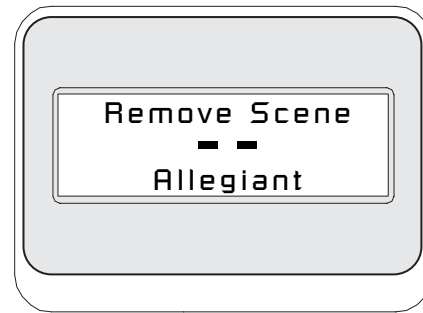

Figure B-6
⑪ **Preset Scene Control:** This command is specific to G3 AutoDome cameras; pressing this key displays a camera on-screen display.
⑫ **Remove Scene from Tour:** Press **Clear Shot**, and the status display changes to the display shown in **Figure B-6**.
⑬ **Not Used**
⑭ **Aux Off:** Press this softkey to enter a number associated with an auxiliary command. The status display changes to an entry box. See the individual device control section for details of the **Camera Functions** menu.